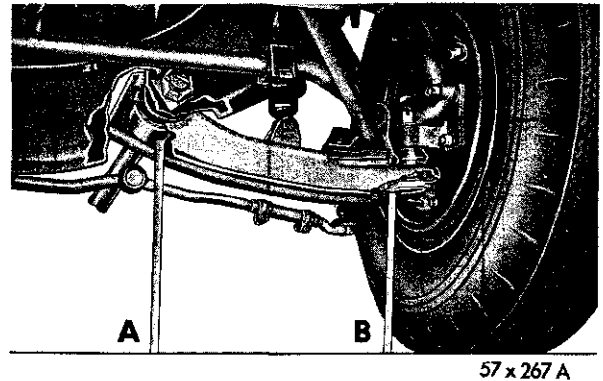

Fig. 1—Measuring Front Suspension Height
(1) Clean all foreign material from the bottom of the lower ball joint assemblies and from the bottom of the lower control arm bushing housings between the flanges of the arms.
(2) Jounce the vehicle several times releasing it on the downward motion.
(3) Measure the distance from the lowest point of one of the lower control arm bushing housings to the floor (measurement A) and from the lowest point of the flat portion on the bottom of the lower ball joint on the same side (measurement B) to the floor (Fig. 1). **Measure only one side at a time.** The differential between measurement A and B should be 2 inches \pm $\frac{1}{8}$ inch.
(4) Measure the other side in the same manner. The difference from side to side should be no more than $\frac{1}{8}$ inch.
(5) Adjust if necessary by turning in the torsion bar adjusting bolt to increase the height and backing off the bolt to decrease the height.
(6) After each adjustment, jounce the vehicle before rechecking measurements. Both sides should be measured even though only one side has been adjusted.